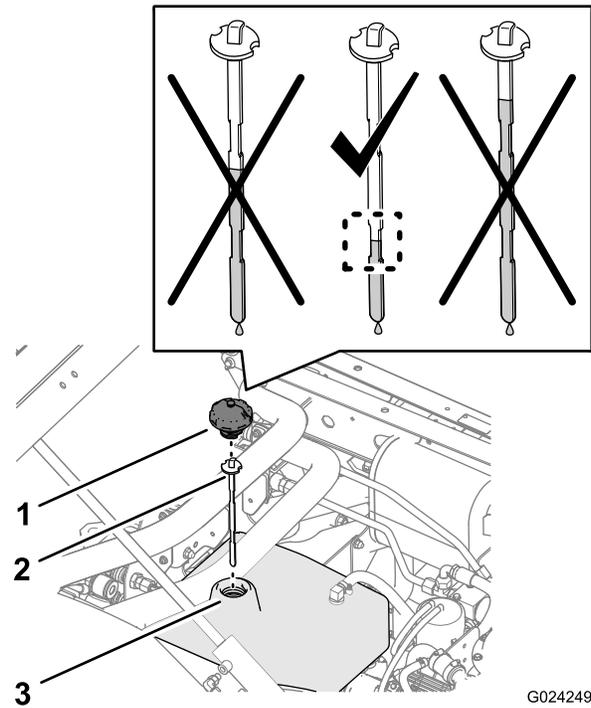
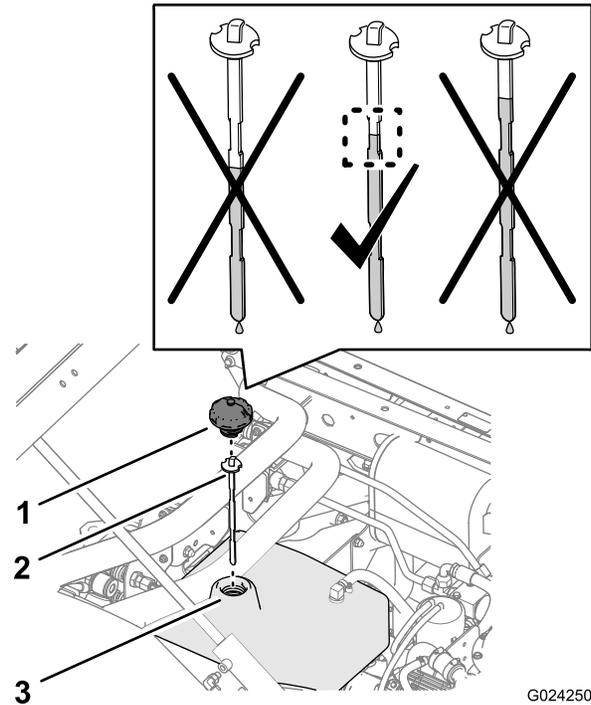

Figure 23
Figure 24
1. Clean the area around the filler neck and the cap of the hydraulic reservoir (Figure 23 and Figure 24).
2. Remove the cap and dipstick from the filler neck of the reservoir and wipe the dipstick clean with a rag (Figure 23 and Figure 24).
3. Insert the dipstick into the filler neck; then remove it and check the fluid level (Figure 23 and Figure 24).
4. If the level is low, add the specified hydraulic fluid into the reservoir to raise the level to the middle of the indented area on the dipstick (Figure 23 and Figure 24).
5. Install the dipstick and cap to the filler neck of the reservoir (Figure 23 and Figure 24).